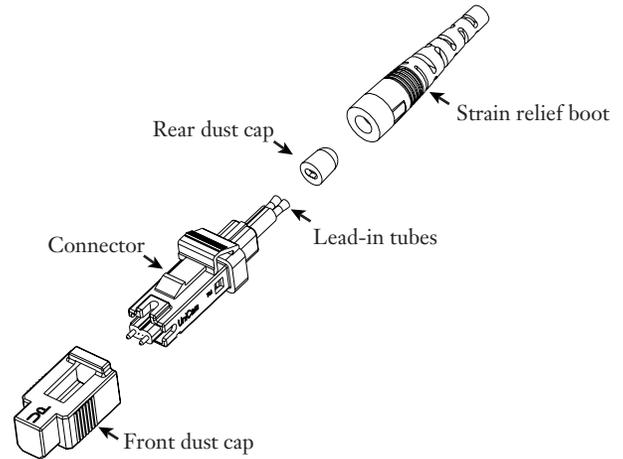

Figure 3-2
3.2-1 Each UniCam MT-RJ compatible connector package contains the parts shown in Figure 3-2.